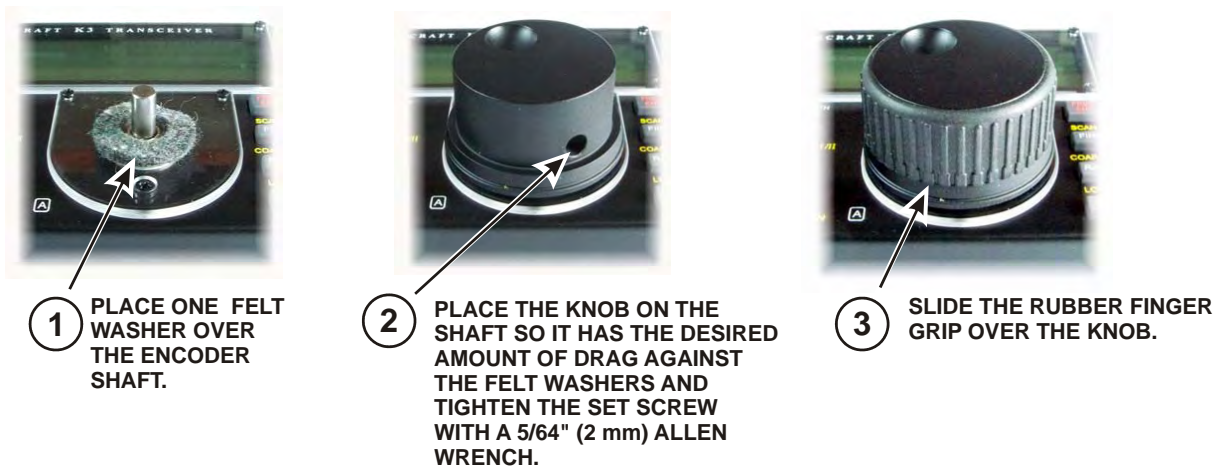

Figure 45. Mounting the VFO A Tuning Knob.
□ Mount the large knob on the VFO A encoder shaft below the LCD as shown in Figure 45. Before adding the finger grip, adjust the position of the knob against the felt washer to produce the desired amount of drag for smooth movement without the knob turning too freely.